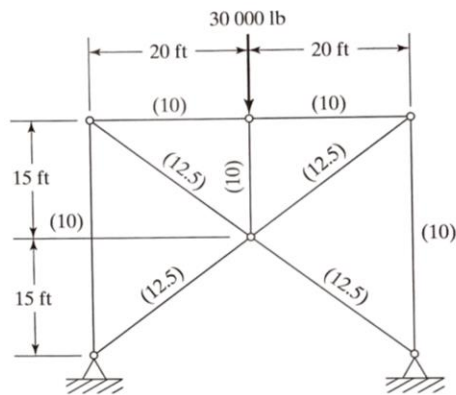

FIGURE P4.10
- 4.10. Consider the truss in Fig. P4.10 loaded as shown. Cross-sectional areas in square inches are shown in parentheses. Consider symmetry and model only one-half of the truss shown. Determine displacements and element stresses. Let  $E = 30 \times 10^6$  psi.